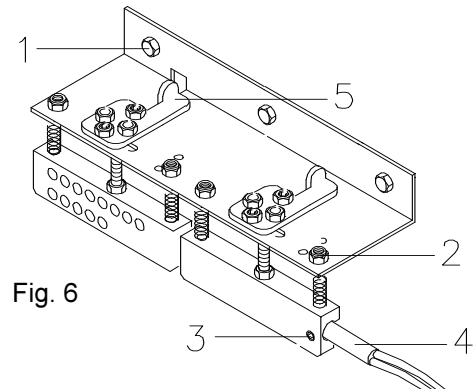

Fig. 6
- Turn the 4 nuts (fig. 6 pos 2) clockwise a few times to raise the elements. Counter clockwise to lower the elements.
- Loosen the 3 screws (fig. 6 pos 1) to remove the complete mounting plate.
- Loosen the cup (fig. 6 pos 3) to replace the heating element (fig. 6 pos 4).
- Raise the heating and cooling plates by rotating the handles above the plates clockwise (fig. 6 pos 5).